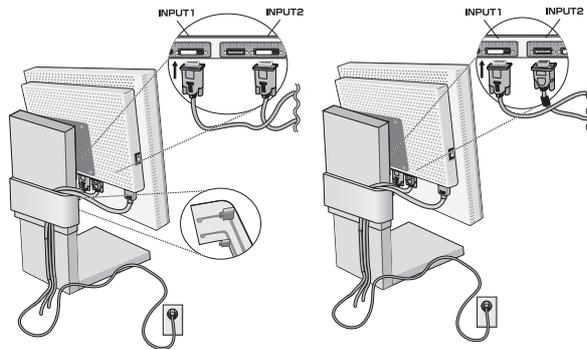

Figure C.1
**NOTE:** To obtain the MultiSync Macintosh cable adapter call NEC-Mitsubishi Electronics Display of America, Inc. at (800) 632-4662.
3. Connect the 15-pin mini D-SUB to DVI-A signal cable to the connector on the back of the monitor into Input1 or the DVI-D signal cable to Input2 (**Figure C.1**).
Gather the cables and attach them to the stand with the cable cover. The cable cover can be attached on the front or the back of the stand (**Figure C.1, C.2**). Please check that cables do not interfere with operation of the stand (tilt, raise, lower and screen rotation).
4. Connect one end of the power cord to the AC inlet on the back of the monitor and the other end to the power outlet (**Figure C.1**).